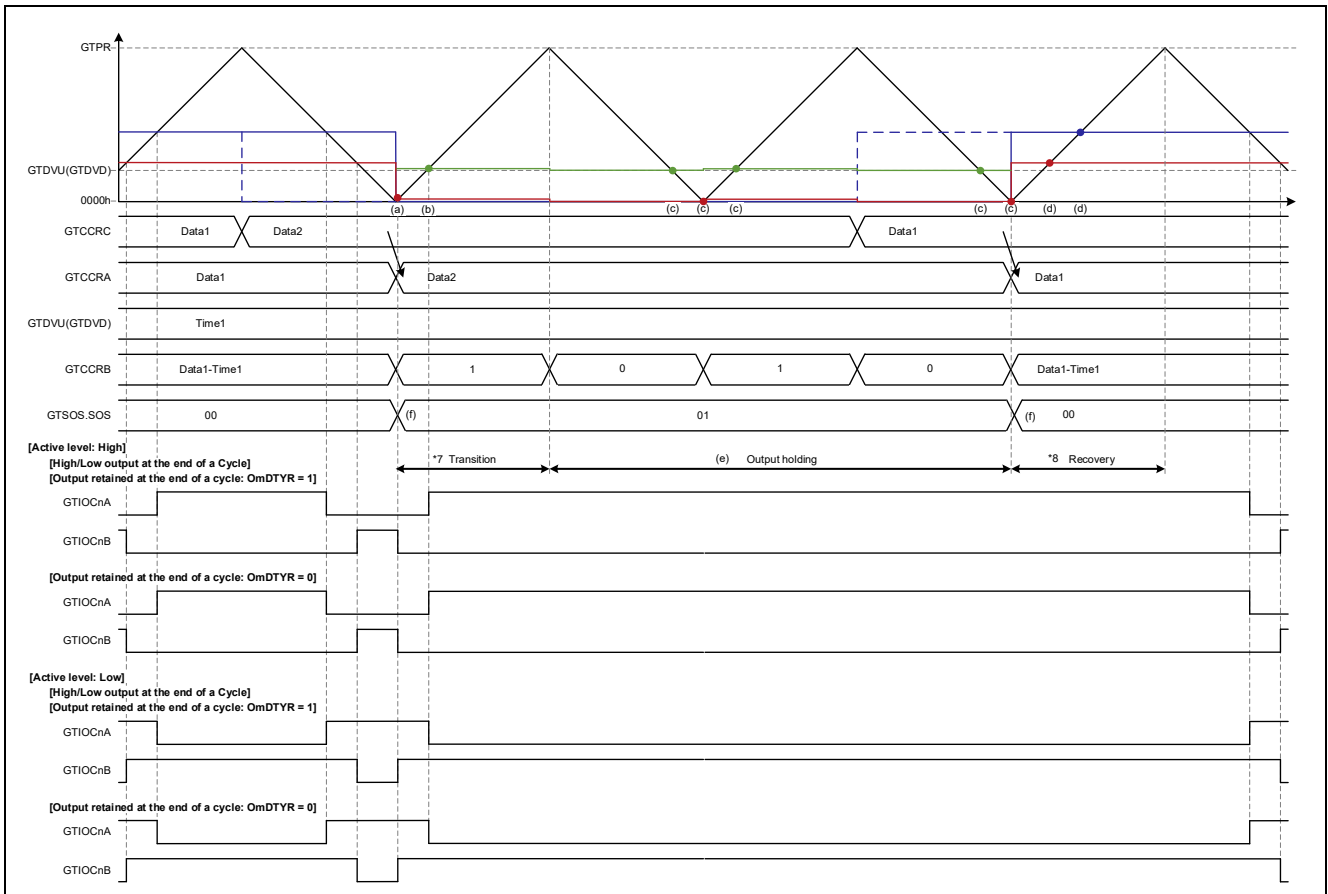

Figure 1.91 Triangle-Wave PWM Mode 1 Operation Example
Operation examples when an abnormal value (0000 0000h) setting is used as listed in Table 1.11, Table 1.12, and Table 1.13 are shown in Figure 1.91 to Figure 1.99 and applicable cautions are described below.
- Operation Example 1: Figure 1.91 Triangle-Wave PWM Mode 1, Abnormal Value (Transfer at Trough)/Normal Value (Transfer at Trough), cautions 7 and 8
Figure 1.91 shows an operation example of transfer of 0000 0000h to GTCCRA via buffer transfer at trough and return via buffer transfer at trough of a normal value in triangle-wave PWM mode 1
Figure 1.92 shows an operation example of transfer of 0000 0000h to GTCCRA via buffer transfer at trough and return via buffer transfer at trough of a normal value in triangle-wave PWM mode 2. Except for the difference in the buffer overwrite timing, the operation is the same as that shown in Figure 1.91.